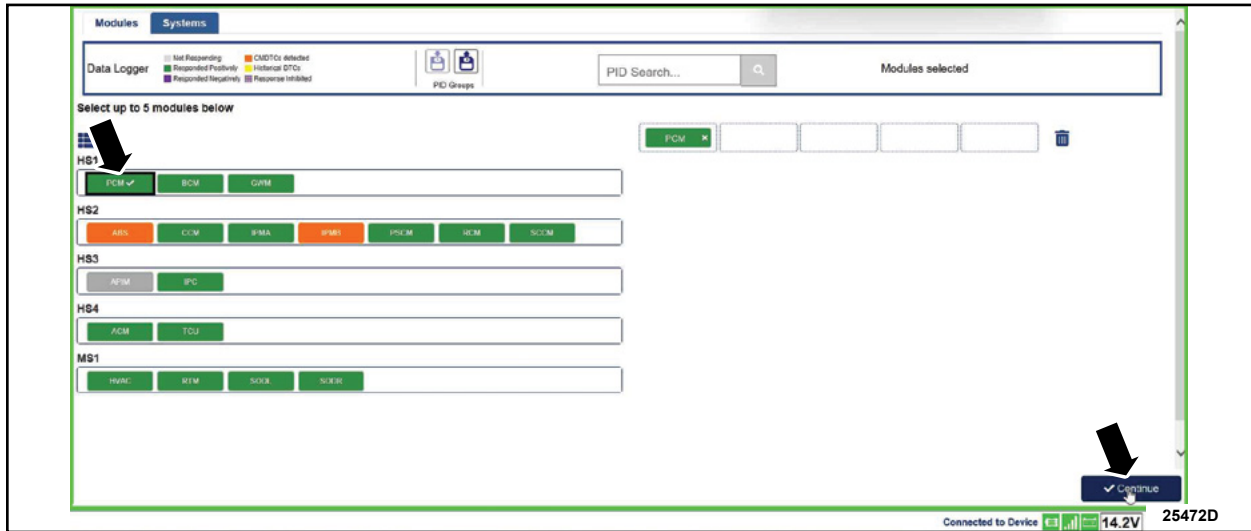

FIGURE 4
11. On the LH side of the screen select **PCM**, and then click **Continue**. See Figure 4.